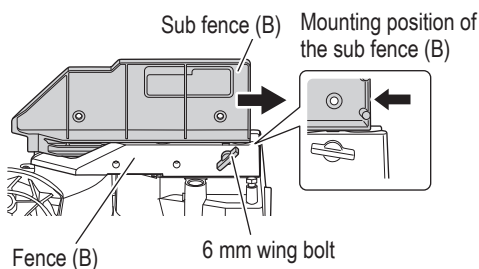

Fig. 12
When left bevel angle cutting, loosen the 6 mm wing bolt, then slide the sub fence (B) outward, as shown in Fig. 12.
In the case of direct angle cutting and right bevel angle cutting, slide inward to the position where the sub fence (B) hits, and secure it with 6 mm wing bolt. (as shown in Fig. 12)
When changing the bevel angle to the left 45°, loosen the 6 mm wing bolt shown in Fig. 12, then slide the sub fence (B) outward and incline the motor head to the left.